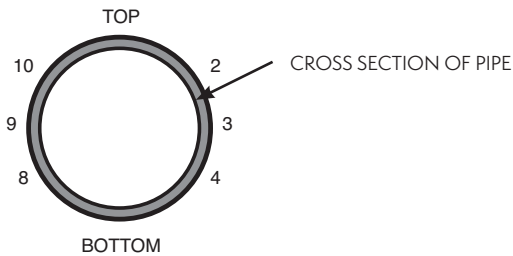

Figure 13 – Pipe Taps Shall be Between 2-4, or 8-10. Not on Top or Bottom of a Pipe.
- 2.2 Before uncrating, assembly, and installation of the Smart Shield® system, consider the location of the recirculating water’s (2) supply and (2) return taps in the system piping headers. Each header tap should include an isolation valve at the header and be installed on the side of the pipe (see Figure 13). Consider sanitary drain location. Drain piping should provide for gravity flow. Also consider install location for both the **MRF** and **BCF-OX** systems, as motorized valves on the **BCF-OX** are field wired into the controller located on the **MRF** system. The **MRF** system may be located against a wall or in a corner of the mechanical room. Allow sufficient space for supply, return, and drain piping (minimum of 24" [610 mm]). Allow a minimum of 30" (760 mm) unobstructed space in front and to one side of the **MRF** system for routine servicing. Allow a minimum of 36" (915 mm) unobstructed space above feeders for routine servicing. See Figures 1 and 2.
- 3.1.3 Each header tap shall include an isolation valve at the header, supplied by others. See Figure 13 for recommended pipe tap locations.
The **BCF-OX** module is installed in conjunction with the **MRF** system in a mechanical room, as described in Section 3.0. Before installation, consider the location of the recirculating water's supply and return taps in the system piping headers. Each header tap should include an isolation valve at the header and be installed on the side of the pipe (see Figure 13). Also consider sanitary drain location. Drain piping should provide for gravity flow. The **BCF-OX** module may be located against a wall or in a corner on the floor of the mechanical room. Allow sufficient space for supply, return, and drain piping. Allow a minimum of 30" (760 mm) unobstructed space in front and to one side of the skid for routine servicing. Allow a minimum of 36" (915 mm) unobstructed space above feeders for routine servicing. See Figures 23 and 24. General installation piping arrangements are shown in Section 3.2. For special installations not covered in this manual, please consult your EVAPCO Representative or Authorized Water Systems Service Provider. General **BCF-OX** installation requirements are listed below.